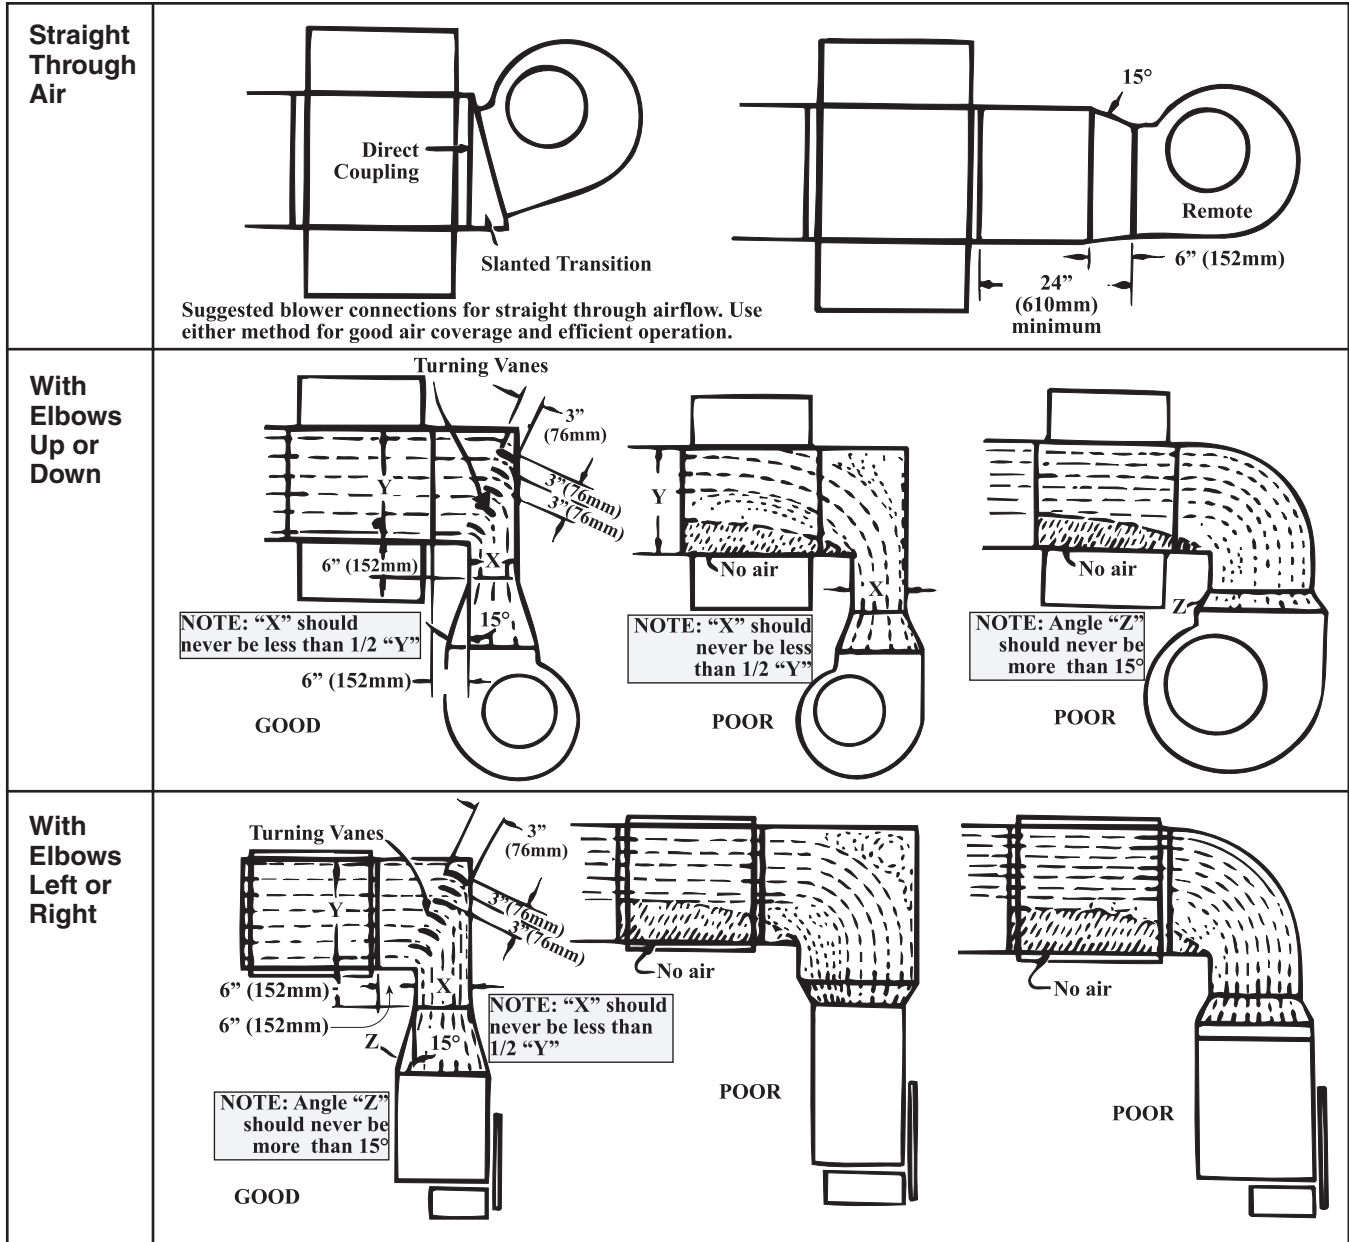

Figure 9. Suggested Blower Connections
- Proper arrangements of the blower and the duct furnace with respect to the angle of approach of the duct connection and the arrangement of the discharge opening of the blower are shown in Figure 9.
Abrupt angle approaches shown in Figure 9 can be detrimental to unit life. Ensure that ample air is directed at the base of the tube section by using turning vanes as shown.